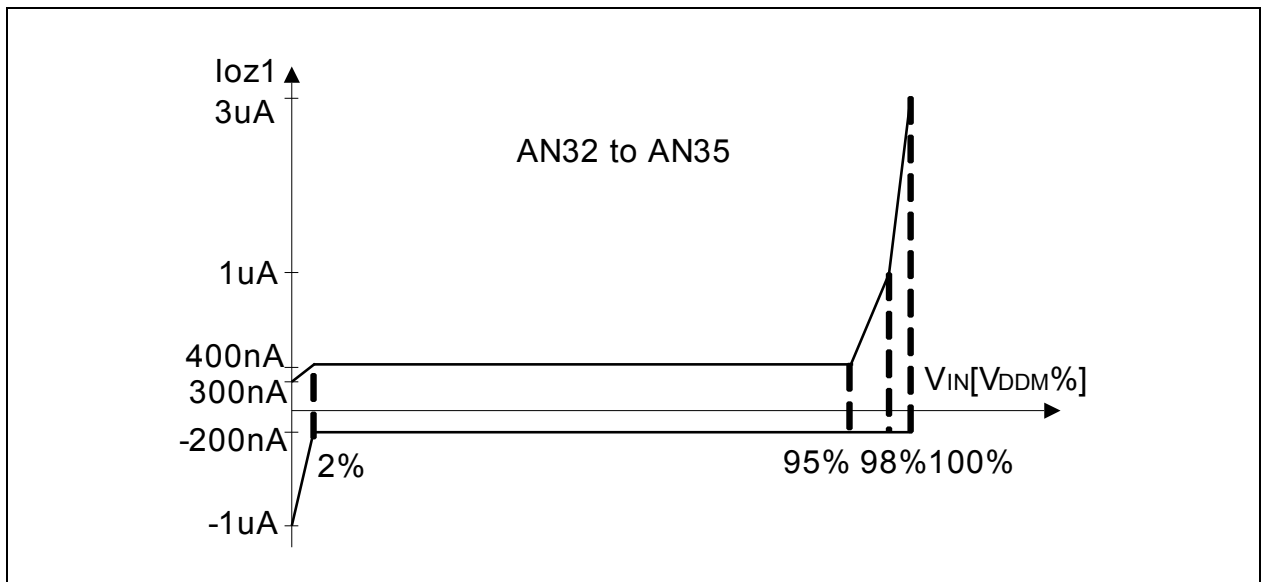

Figure 4-5 Analog Inputs AN32-AN35 Leakage
5) The leakage current definition is a continuous function, as shown in Figure 4-5. The numerical values defined determine the characteristic points of the given continuous linear approximation - they do not define step function.